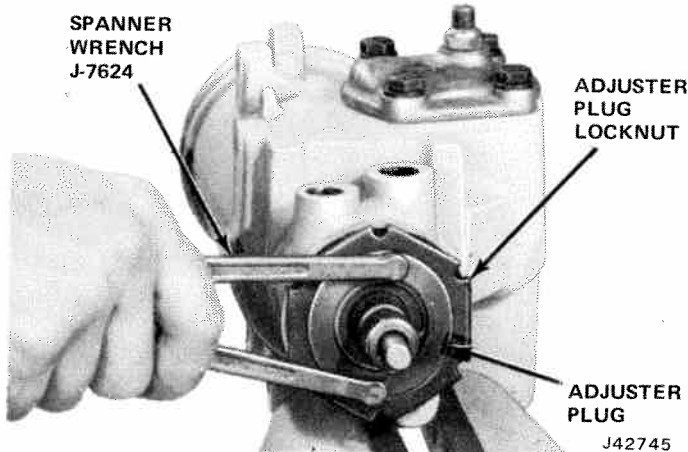

Fig. 11-64 Adjuster Plug Removal or Installation
(1) Loosen adjuster plug locknut with Wrench J-25194.
(2) Loosen adjuster plug assembly with Tool J-7624 (fig. 11-64). Hold stub shaft to keep it from turning and screw out adjuster plug assembly.